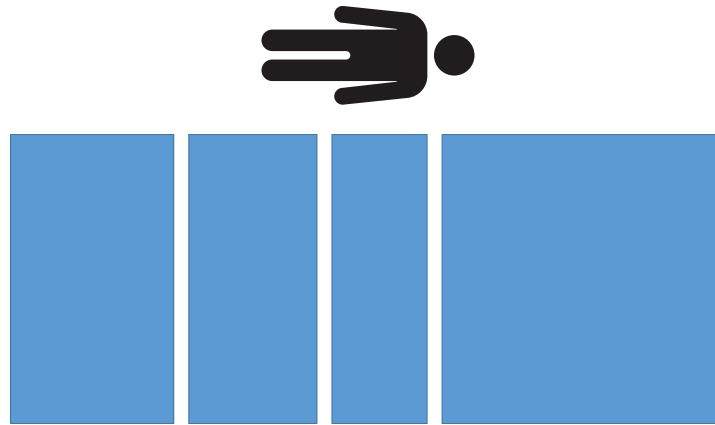

Figure 12 – Pre-load - no weight
28. Remove all calibrated weights from the product (Figure 12).